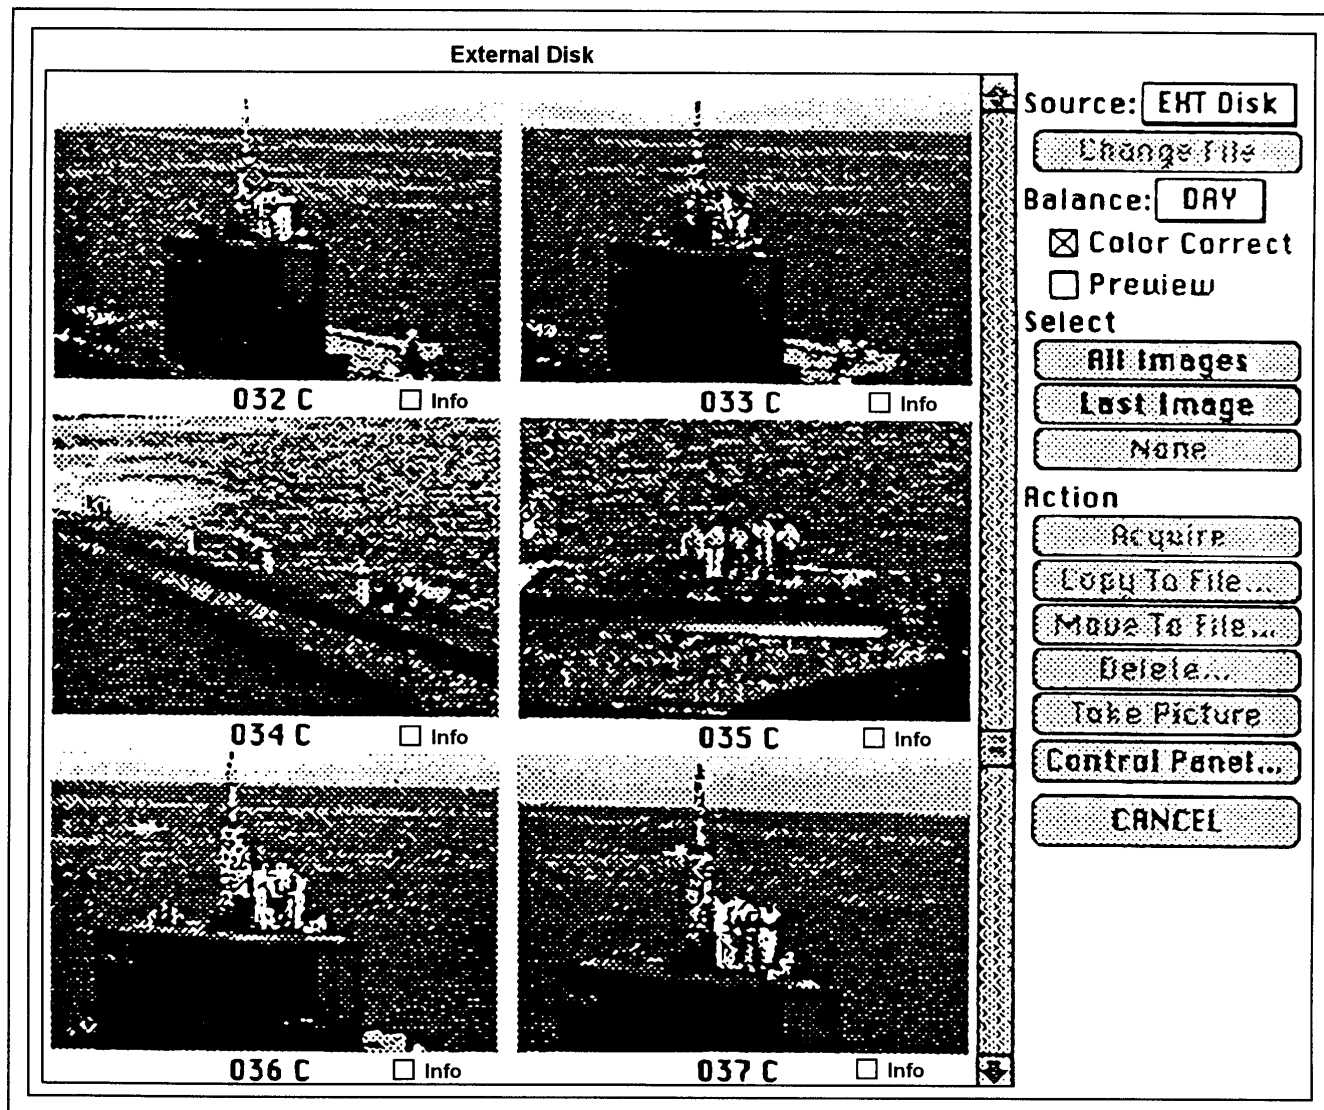

Figure 11-36.—The Kodak Professional DCS 200 Camera window in Adobe Photoshop software.
6. After a few seconds, the Kodak Professional DCS 200 Camera window will appear (fig. 11-36).